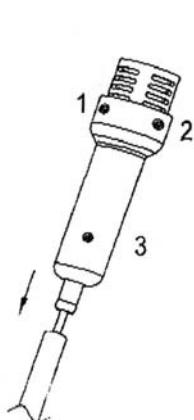

Fig.1
- 1.Unscrew the 3 screws on handle then take out the handle cover.(See Fig.1 below)